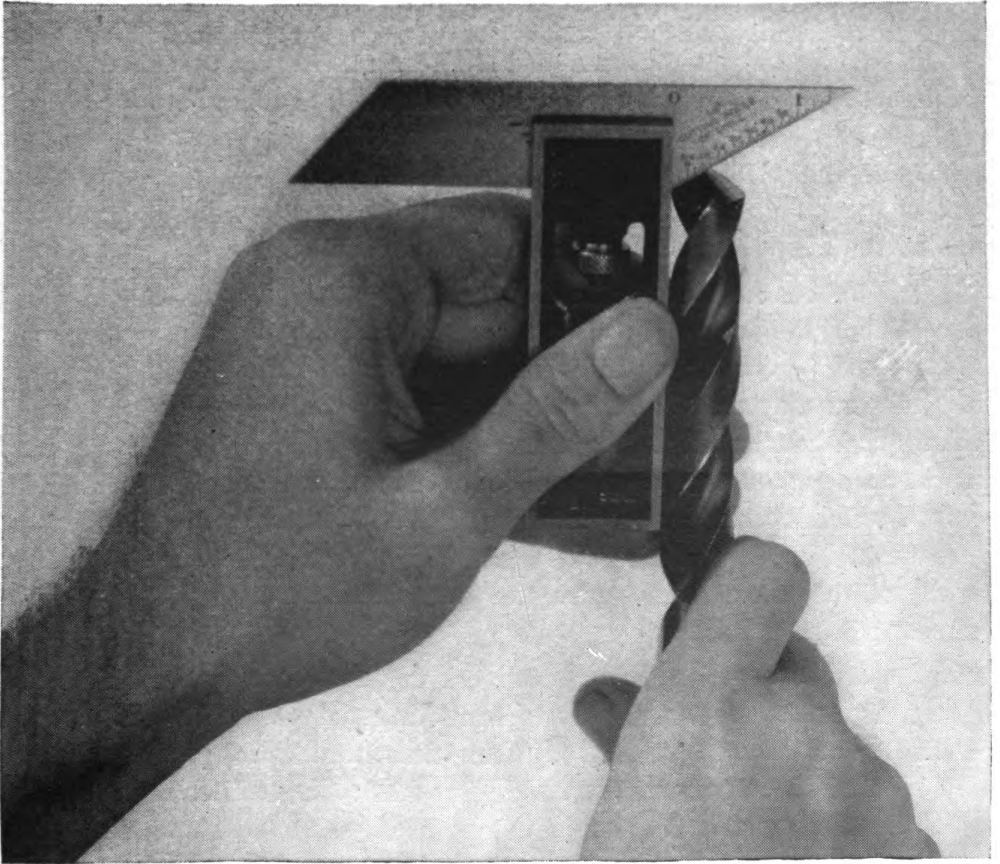

Figure 63. Drill-grinding gauge in use.
*h. DRILL-GRINDING GAUGE.* (1) The drill-grinding gauge is shaped like the letter "T." The ends of the cross-bar of the "T" are cut off at an angle of  $59^\circ$ . This is the correct angle for the cutting lips of a drill. The edge of the gauge is marked off in  $\frac{1}{64}$ -inch divisions to enable the mechanic to measure the length of the lips as well as the angle. For special work, gauges may be cut at angles of 40 to  $70^\circ$ , but  $59^\circ$  is used for all general work.
(2) To check the angle of the cutting lip of a drill after grinding, the gauge is held against the drill as shown in figure 63. The drill is then turned around and the other lip checked. If the lips do not have the correct angle and the same length, the drill must be reground.